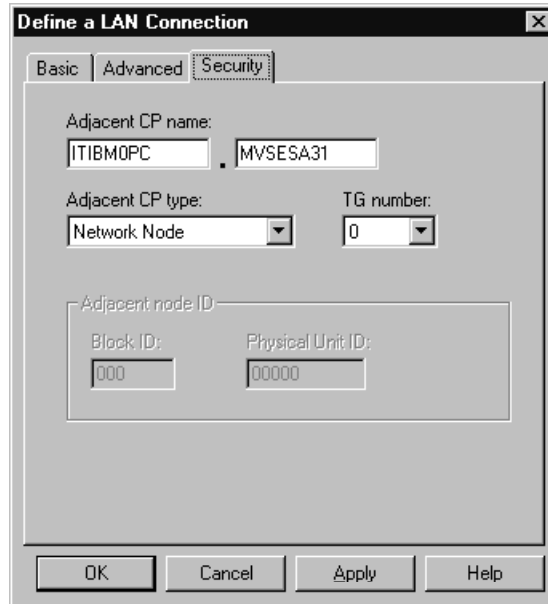

Figure 102. Define a LAN connection: security page
- 7 On the Security page, use the same values that are shown in Figure 102 for the following fields: